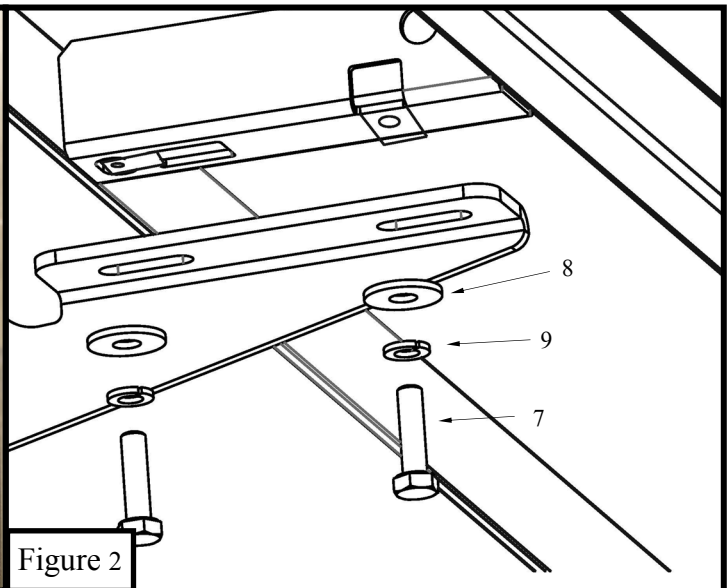

Figure 2
7. Take the drivers side running board and place it onto the mounting bracket cradles; align the running board with the mounting holes in the brackets and attach using (8x) M8 hex head bolts (item 7), (8x) M8 lock washers (item 9), and (8x) M8 large flat washers (item 8) **Figure 2.** *Do not fully tighten at this time.*